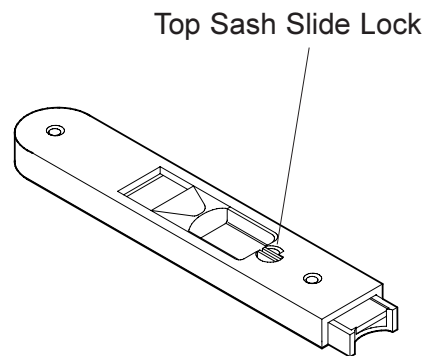

Fig. 28 - Locking Top Sash Slide Latch
- To prevent the top sash latches being accidentally withdrawn causing the sash to fall in, turn the slide locks through 90° with a small, flat blade screwdriver. (Fig. 28)